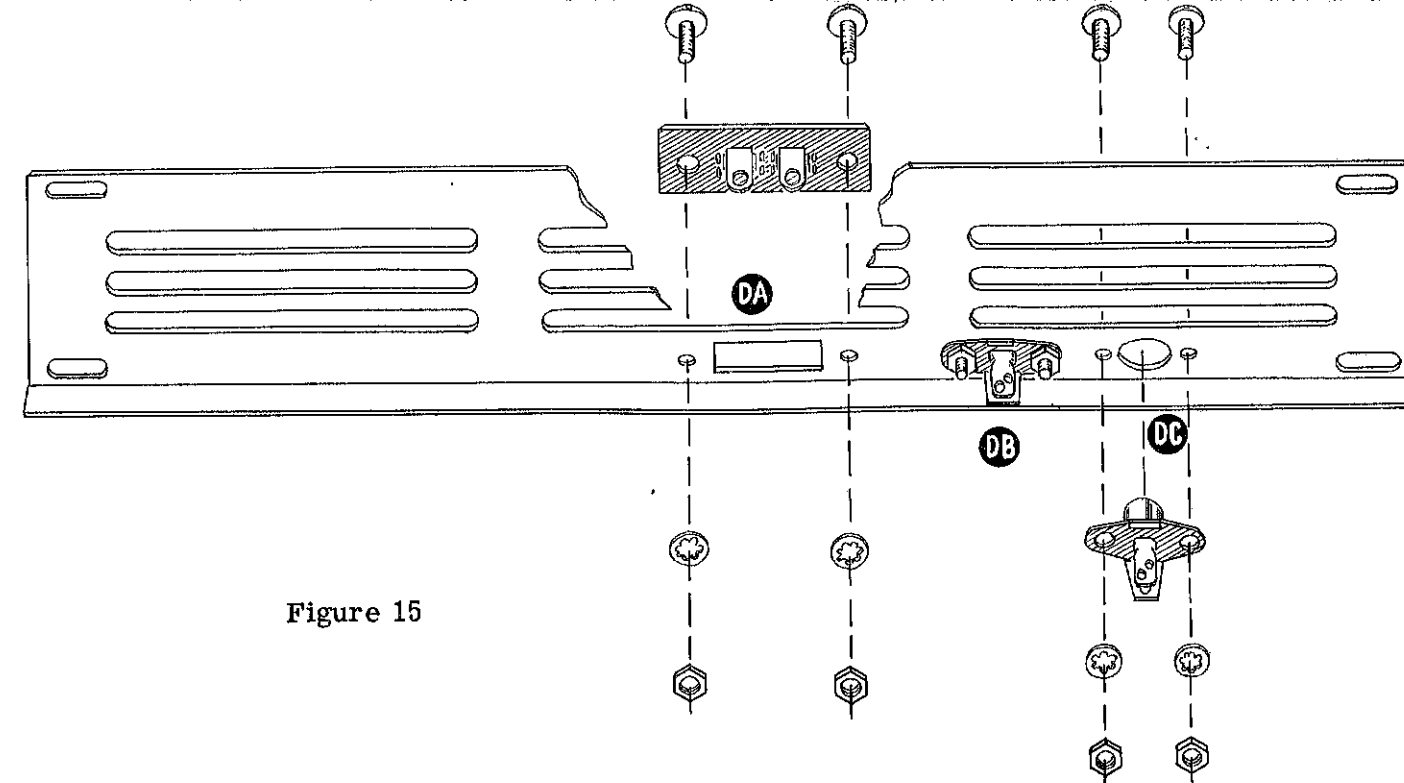

Figure 15
- ( ) Pass the twisted leads from CC4 and CC5 through chassis grommet L and dress along the center of the chassis as shown in Pictorial 2. Connect one lead to terminal strip AB2 (S) (2) and the remaining lead to AB3 (NS).
- ( ) Run the free end of the lead connected to terminal strip T2 to control lug CC1 (S) (1).
- ( ) Pass sleeving over the free lead of the .01  $\mu$ fd disc condenser connected to CC2 and connect this end to socket G6 (S) (2).
- ( ) Connect the lead from CC3 to terminal strip T1 (S) (4).
- ( ) Slip a 3/8" rubber grommet over the line cord and pass the cord through grommet BA in the left end bracket from the outside. DO NOT forget the grommet on the line cord. Tie a knot approximately 5" from the end for strain relief. Connect one line cord lead to terminal strip AB1 (S) (2) and the remaining lead to AB3 (S) (2).
- ( ) Identify the antenna coil, which is wound on a 2 watt resistor and has a 10  $\mu$ fd condenser connected across the resistor. Cut both of the resistor leads to a length of 1 1/4". DO NOT cut the twisted leads. Note that the coil with the twisted leads is nearer one end of the resistor. Connect this end to terminal strip AA1 (S) (2), which is the grounded end, and the end furthest from the coil to AA3 (S) (2). The coil assembly must stand straight up, vertical in respect to the chassis, with the twisted leads in line, also vertical to the chassis.
- (✓) Mount the 2-lug screw type terminal strip at location DA on the back panel with 6-32 hardware. Note that the strip mounts on the outside, or painted side of the panel as shown in Figure 15 on Page 23.
- (✓) Install a phono connector at DB on the rear panel with 6-32 hardware. Note that these connectors are installed inside the panel as shown in Figure 15. The ground lug should be nearest the panel flange.